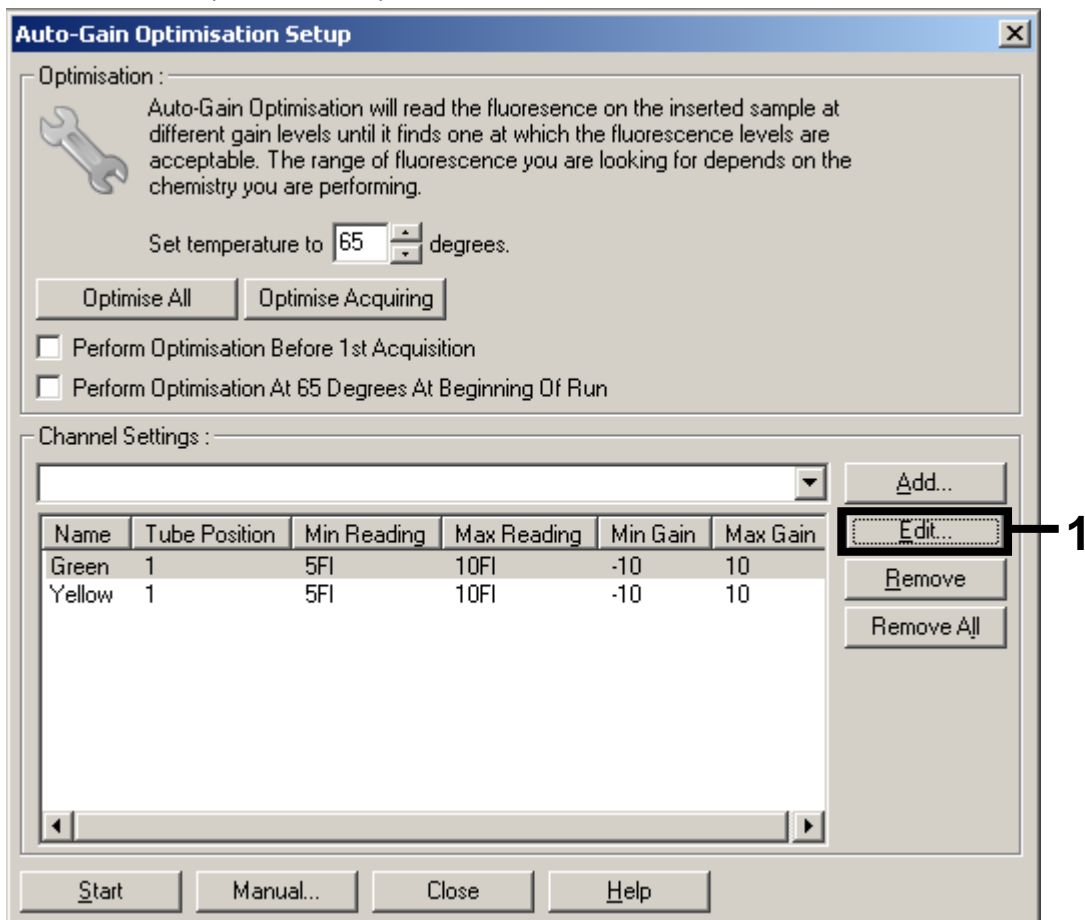

Figure 11. Adjusting the fluorescence channel intensity manually for every fluorescence channel at different tube positions for different assays (CMV and EBV).
9. Click "Edit" (Figure 11) to edit the fluorescence channels.